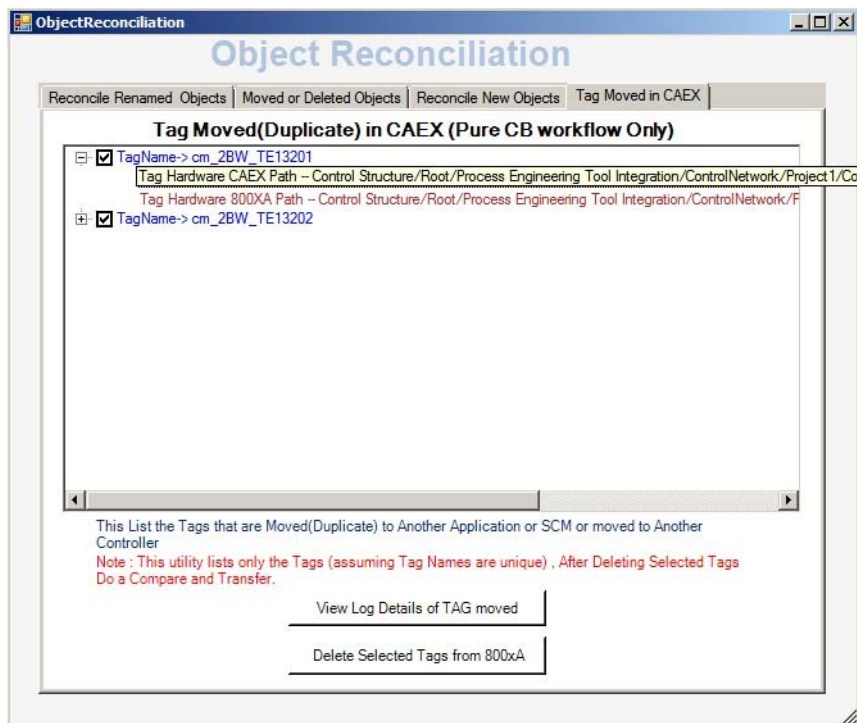

Figure 49. Tag Moved in CAEX
2. Compare the CAEX Path and the 800xA Path as shown in Figure 49. The duplicate tag moved in the CAEX path (from Application, Single Control Module, Controller (Hardware) and the existing 800xA path will be displayed under **Tag Moved in CAEX** tab.